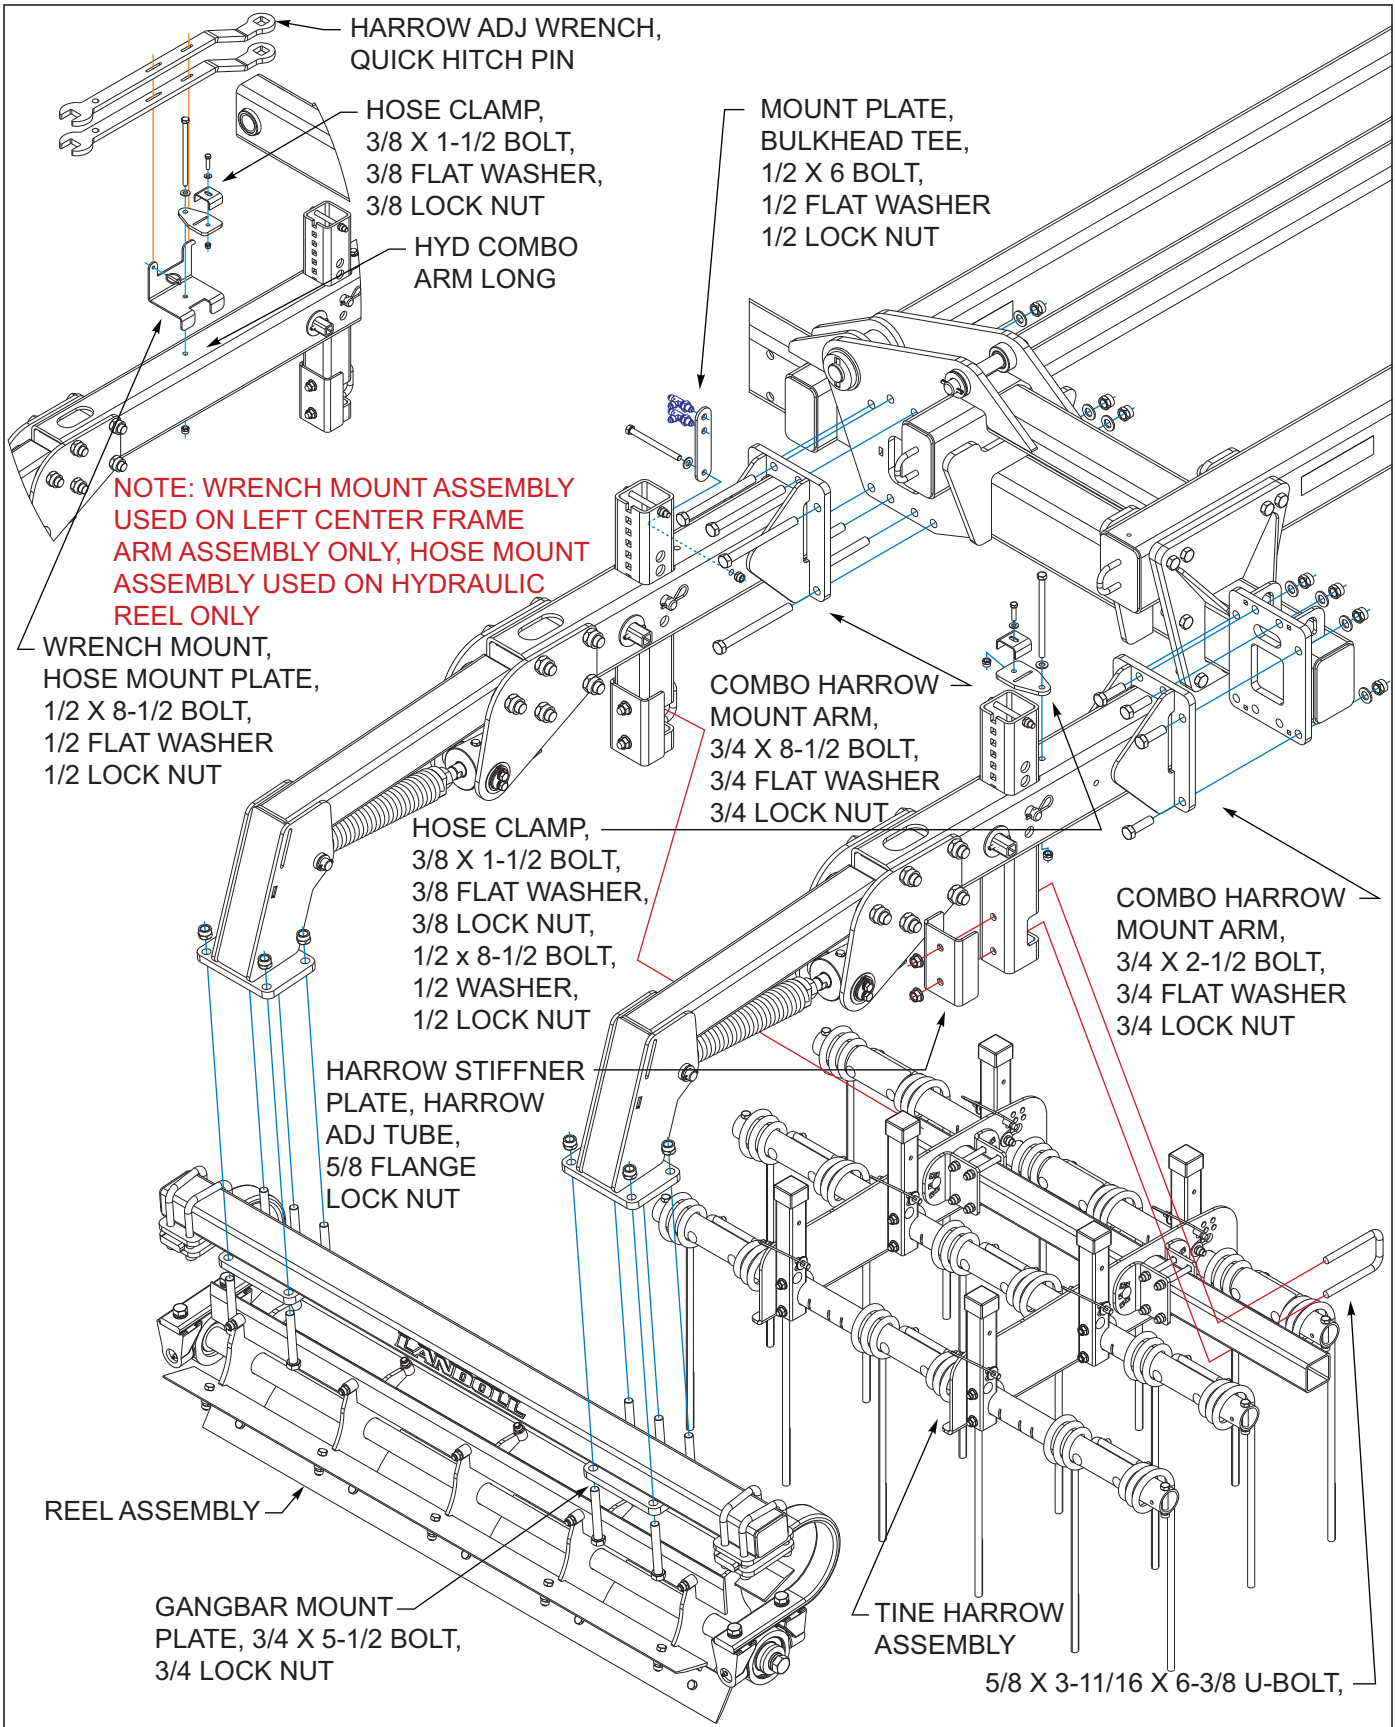

Figure 3-44: Hydraulic 3BCT/Chopper Installation (Option)
1. Attach the combo harrow mount arm long assemblies on rear of center frame with 3/4 x 2-1/2 bolts, 3/4 flat washers, 3/4 lock nuts *See Figures 3-44.*
4. Attach the harrow tine assemblies, secure with the u-bolts, harrow stiffner plates, nuts that were just removed as shown *See Figures 3-44.*
6. Attach the reel assemblies, secure with the gangbar mount plates, 3/4 x 5-1/2 bolts, 3/4 lock nuts, that were just removed as shown *See Figures 3-44.*
12. Install the hose mount plate to both inner combo harrow mount arm with the 1/2 x 8-1/2 bolt, 1/2 flat washer, 1/2 lock nut, the hose clamp attaches with 3/8 x 1-1/2 bolt, 3/8 flat washer, 3/8 lock nut **See Figures 3-44.**
13. Install the mount plate to both inner combo harrow mount arm with 1/2 x 6 bolt, 1/2 flat washer and 1/2 lock nut **See Figures 3-44.** Attach the bulkhead tees w/nut to mount plate.